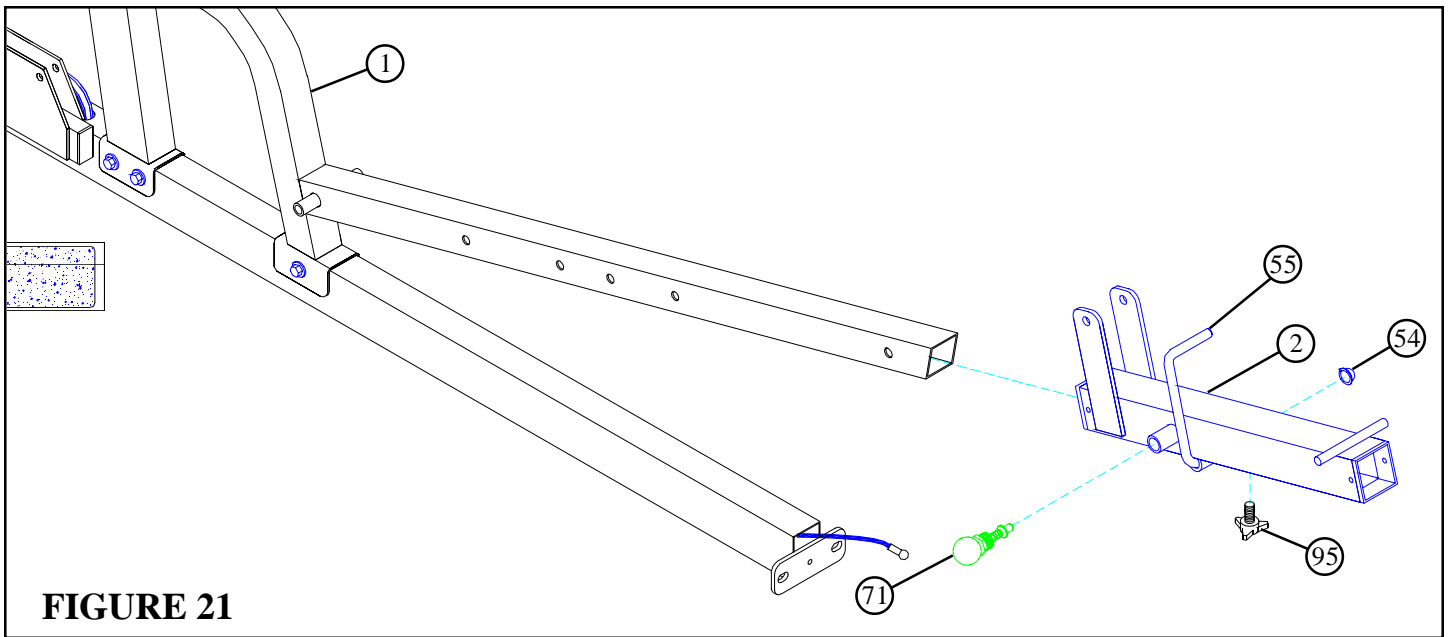

FIGURE 21
- Slide the 1/2" DIA U-PIN (55) through the bushing in the WOLFF SLEEVE (2) then force 1/2" PAL NUT (54) over end of 1/2" DIA U-PIN (55).
- Slide the WOLFF SLEEVE (2) over the FRAME SUPPORT (1). (**NOTE: Make sure the spring pin barrel is facing as shown in FIGURE 21.**)
- Securely assemble one 3/8" SPRING PIN ASSEMBLY (71) and one THUMBSCREW (95) to the WOLFF SLEEVE (2).